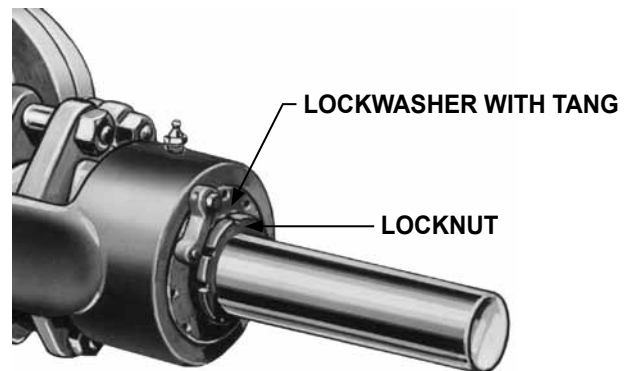

FIGURE 13
6. Bend the tang on the lockwasher up and with a spanner wrench, remove the locknut and lockwasher from the shaft. **Refer to figure 13 below.**